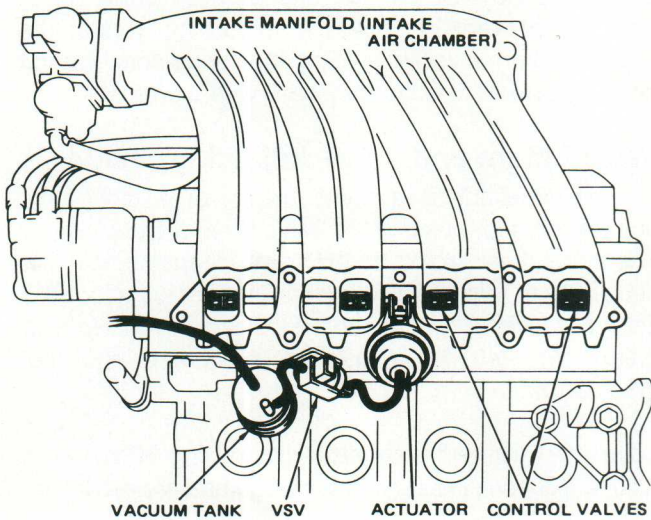

Figure 239-1
The intake manifold passage leading to each cylinder is divided into two parts, one of which has an intake air control valve (Figure 239-1). This valve opens and closes in accordance with the speed of the engine, thus acting as a variable induction valve. This feature improves engine performance in the low-speed range without sacrificing high engine speed and output.
The intake air control valves for all cylinders are constructed as one unit (Figure 239-1) and open and close by means of a vacuum actuator. The improved engine performance and higher torque at lower rpm resulting from the adoption of T-VIS are illustrated in Figure 239-2.
1. Intake Air Control Valves. The intake air control valve assembly is installed between the cylinder head and the intake manifold. The valve either opens up or closes off one of the two ports of each intake passage (Figures 239-1 and 239-3).